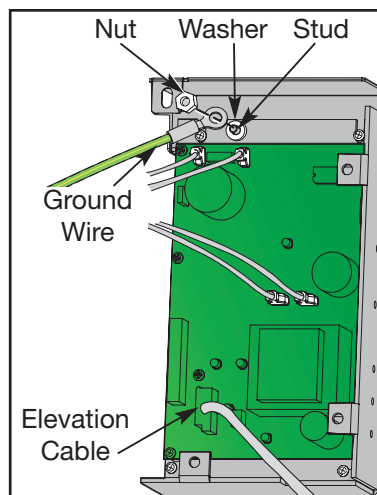

Figure 10
**B.** Disconnect the elevation motor cable from the lower board. See Figure 10.
**C.** Using a 3/8" nutdriver, remove the nut, washer and ground wire from the stud above the lower board. See Figure 10.
- C. Place the washer on the stud then follow it with the ground wire terminal. Use a 3/8" nutdriver to secure the nut over the terminal. See Figure 10.